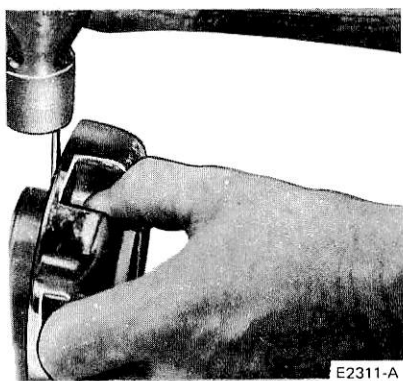

FIG. 19 Lock Pin Installation
5. Install the actuating cam onto the knob, aligning ears of the cam with the slots of the retainer. Position parts on a small piece of wood as shown. Assemble the lock pin through the groove of the cam and holes in the actuating knob. Be sure ends of the pin are flush with the outside diameter of the cam (Fig. 19).